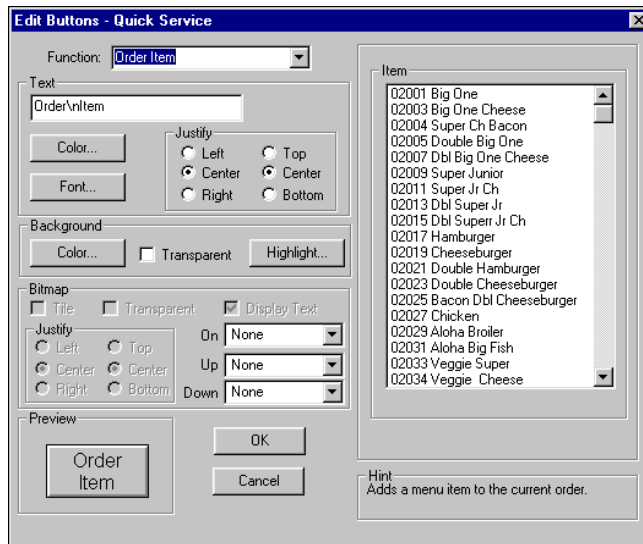

Figure 5-88 Order Item Button Function
1. Select **Next Seat** from the **Function** drop-down list. An additional option displays, as shown in Figure 5-88:
1. Select **Order Item** from the **Function** drop-down list. An additional option displays, as shown in Figure 5-88: